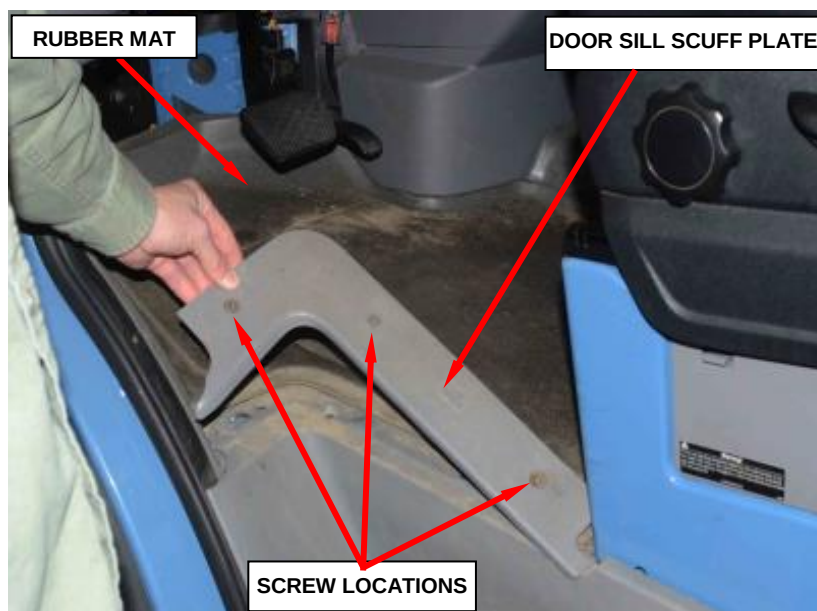

Figure 178 – Door Sill Scuff Plate
- h. With the help of a trim tool insert the holes of fabric gasket, four places (Figure 178).